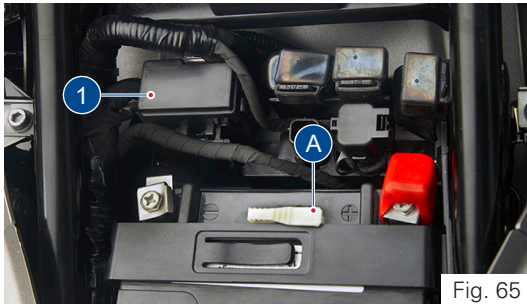

Fig. 65
- Press the lock and open the fuse box cover (1) (ref. Fig. 65).